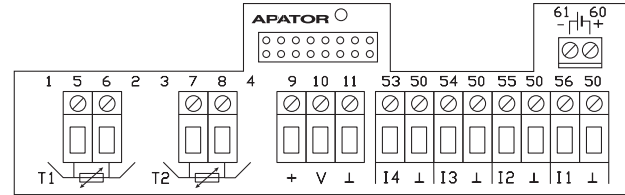

Fig. 13
- calculator with a strip for 2-wire temperature sensor, a strip for the connection of the main flow transducer and a strip for the connection of 4 additional devices (Fig. 13),
When measuring with 2-wire sensors (Fig. 13), the T1 sensor (power supply temperature) must be connected to the connector marked with numbers 5, 6, whereas the T2 sensor (return temperature) – to connector no. 7, 8.